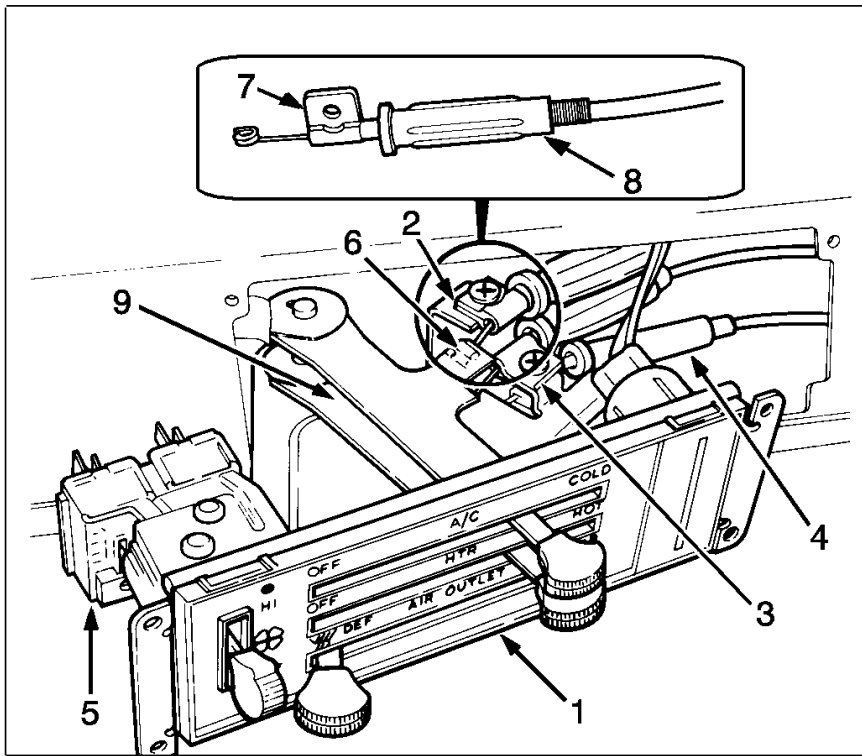

Figure 16 Control Assembly and Cables
2. Remove the clips securing the cable eyelets to the control lever pins (Figure 16).
5. Place the control assembly in the instrument panel and replace the four securing screws (Figure 16).
2. Remove the screws from the control panel assembly bezel on the instrument panel (Figure 16). Pull control assembly away from the instrument panel.
3. Locate the cable to be removed and remove the clip securing the cable eyelet to the control lever pin (Figure 16). Cables can be identified by the color-coded mounting flags.
7. Position the control assembly in the instrument panel and install the mounting screws (Figure 16).
3. Remove the control assembly mounting screws and pull the control assembly outward (Figure 16).
3. Position the control assembly in the instrument panel and install the mounting screws (Figure 16).